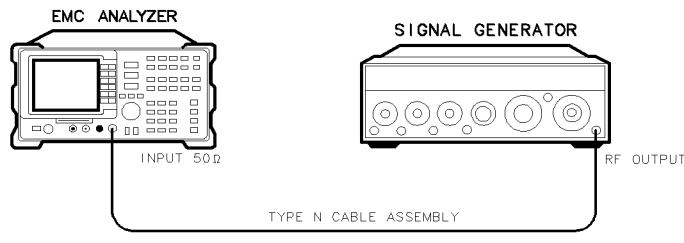

Figure 2-13. Residual FM Test Setup, HP 8591EM
1. Connect the equipment as shown in Figure 2-13.